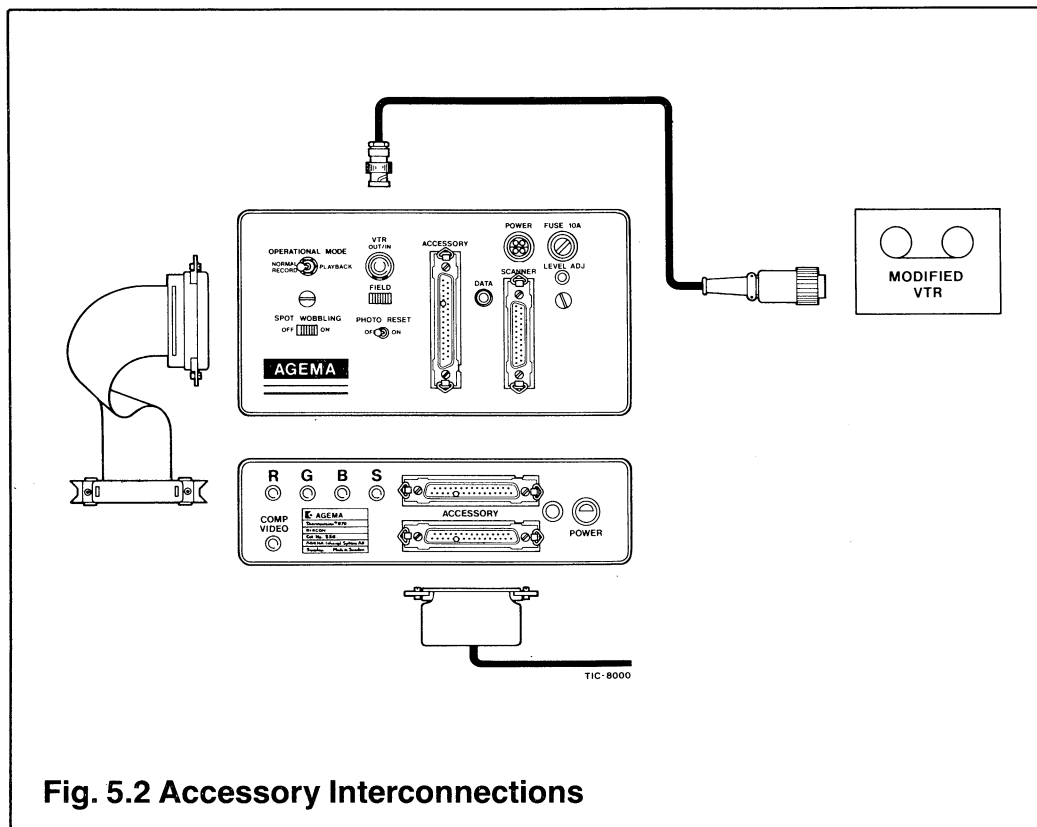

Fig. 5.2 Accessory Interconnections
Figure 5.2 details the interconnection of the Display to DISCON, VTR and TIC-8000.
2. Figure 5.5 shows details of the front of DISCON and Figure 5.2 details the interconnection.